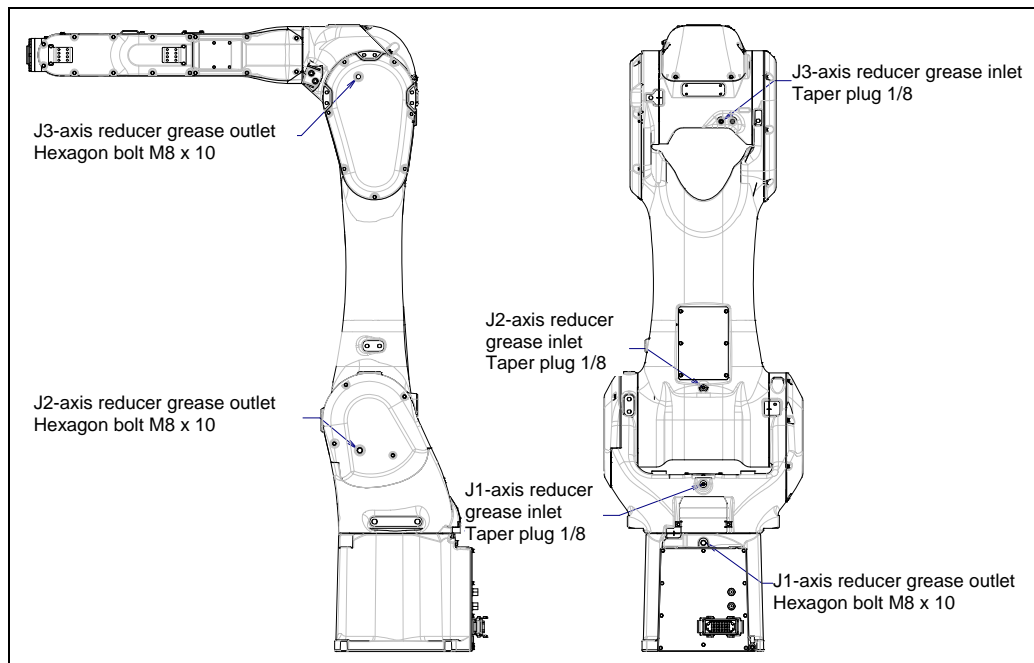

Fig. 7.3.2 (b) Greasing point of J1 to J3-axis reducer
- 3 Remove the hexagon bolt M8 x 10 from grease outlet. (Fig.7.3.2 (b))